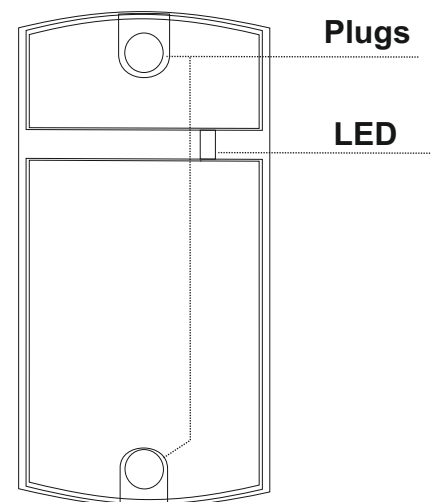

Fig. 3
- Close the reader holes with supplied plugs (Fig. 3).